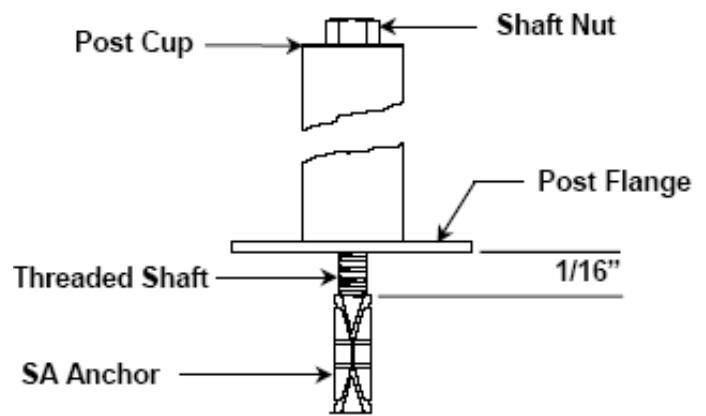

Figure 2: Center Shaft inserted into SA Anchor
4) Insert the Post Cup, curved upward, into the top of the Vogue Post. Insert the Center Shaft through the cup until it reaches the bottom of the post. Screw the 1" SA anchor, thread side down, to the Center Shaft. **Note:** Do not fully tighten anchor to shaft. Leave approximately 1/16" between the anchor and flange (See Figure 2).